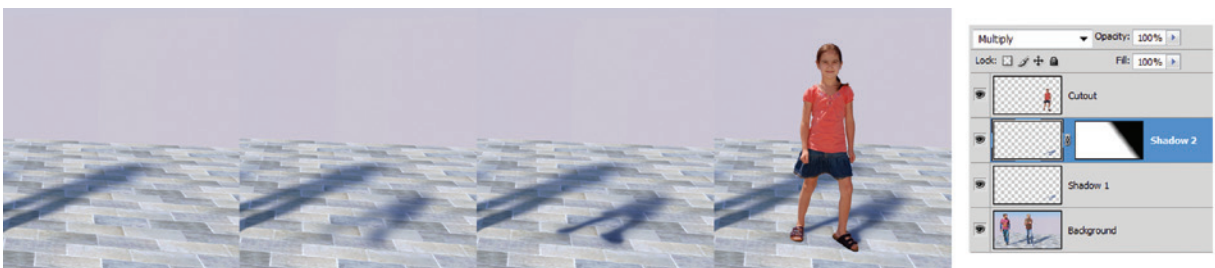

Figure 5.84: Adding a person and her shadow using Photoshop
To add a person using your photo-editing software, follow the procedure illustrated in **Figure 5.84**. These instructions are for Adobe Photoshop—modify them slightly if you are using another type of software.
10. If you want a shadow that appears less fuzzy next to the person yet blurs farther away, apply a layer mask as shown in **Figure 5.84** to the two shadow layers.